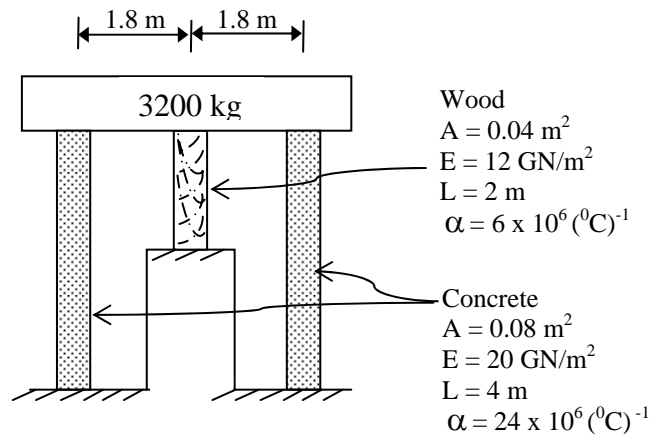

Fig. 7
9. A rigid floor slab with mass of 3,200 kg rests on three columns as shown in Fig. 7. What is the compressive stress in each of the members (a) at installation and (b) after a temperature decrease of  $20^\circ\text{C}$ ?